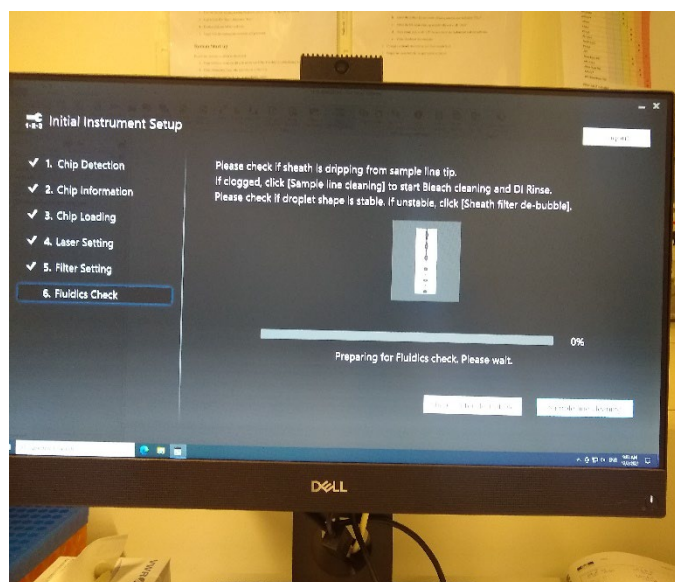

Figure 16
13. Before the process of the "Fluidic check is in progress" finishes, press "sheath filter de-bubble" (Figure 16).